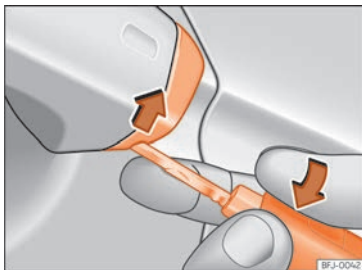

Fig. 86 Driver door handle: lever the cover off
- Insert the key shaft into the lower opening in the cover on the driver door handle » Fig. 86 then remove the cover upwards.